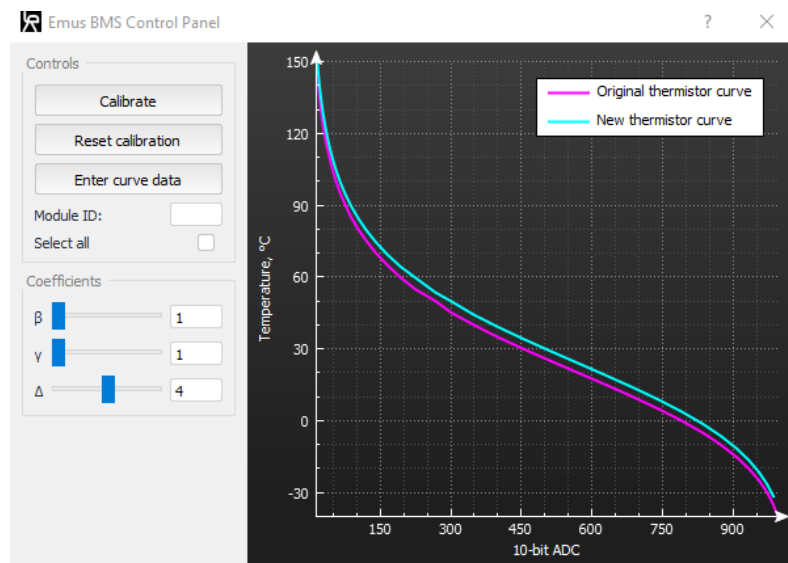

Figure 6.1 External temperature sensor calibration window
- Click on "Calibrate External Temperature ..." button. A window showed in Figure 6.1 should appear;